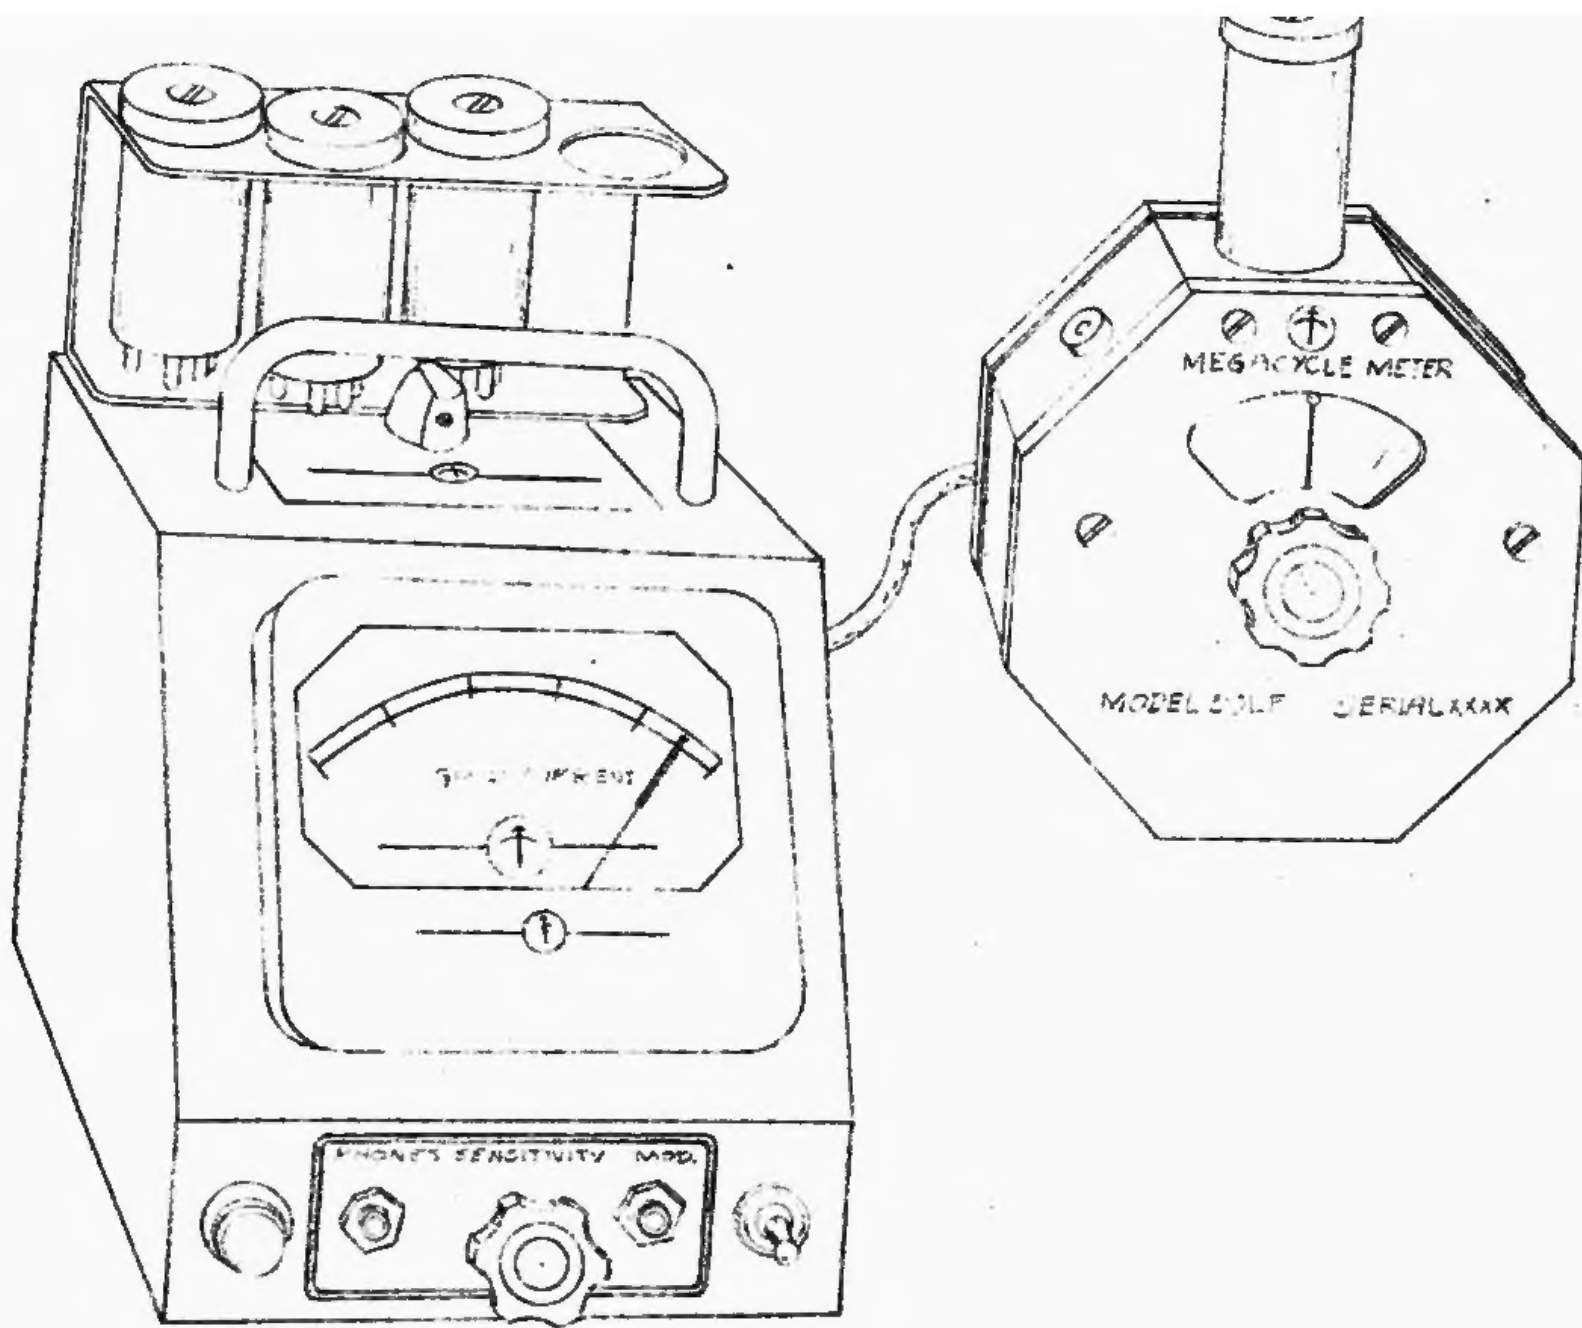

Figure 1. Model 59 LP Megacycle Meter
a. The Model 59 LF Megacycle Meter, see Figure 1, consists of a compact oscillator connected to its power supply by a small flexible cord. It covers a frequency range of 100 kilocycles to 4.5 megacycles and may be used as follows:
- (1) As a grid-dip meter.
- (2) As a variable-frequency oscillator, either modulated, or unmodulated.
- (3) As an absorption wavemeter.
- (4) As an oscillating detector, or as a tuned diode detector.
- (1) Place the packing case in a location where it can be opened easily.
- (2) Follow the instructions for slitting the carton and removing the filler as printed on the label on the carton.
b. Remove the coil set from its storage space in the rear of the power supply and clip it in place at the top rear edge of the power supply unit as shown in Figure 1. Select the coil having the desired frequency range and plug it into the oscillator unit.